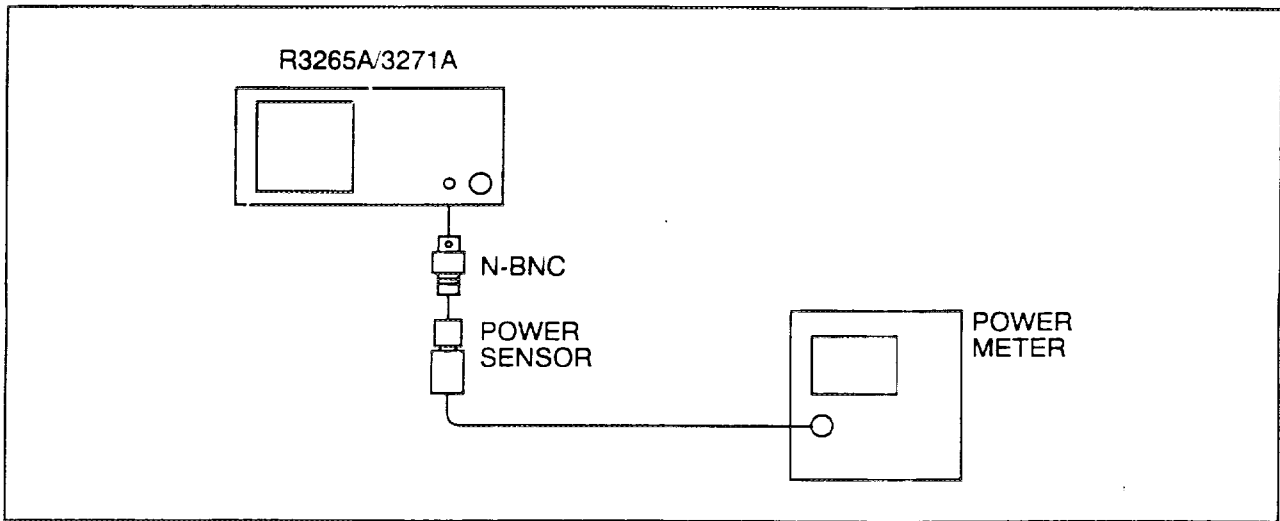

Figure 4-19 Calibration Amplitude Accuracy Test Setup
- (1) Connect the equipment as shown in Figure 4-19.
- (2) Press the power sensor zero of the power meter and calibrate the power sensor. Enter the power sensor's 25 MHz calibration factor into the power meter.
- (3) Connect the power sensor via an N(f) – BNC(m) adapter directly to the CALOUT connector. Read the power meter display. The power level should be within the following limits (± 0.3 dB):